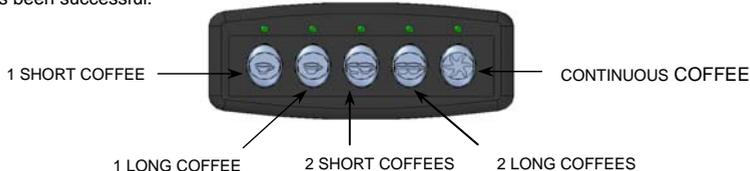

Fig. 8
Press the key 7 pad "" (continuous coffee)- see Fig. 8 -and keep it pressed for 7 seconds, until all the programming LEDs on the keyboard are simultaneously switching on. Within 5 seconds press any of the pads related to the 4 coffee selections(1 short coffee, 2 short coffees, 1 large coffee, 2 large coffees) which can be programmed. You will see all the green LEDs switch off, except the option you have pressed as well as "" led.